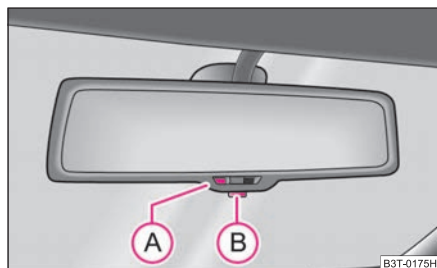

Fig. 60 Automatic dimming interior mirror
- Press the button (B) - the warning light lights up (A) ⇒ fig. 60.